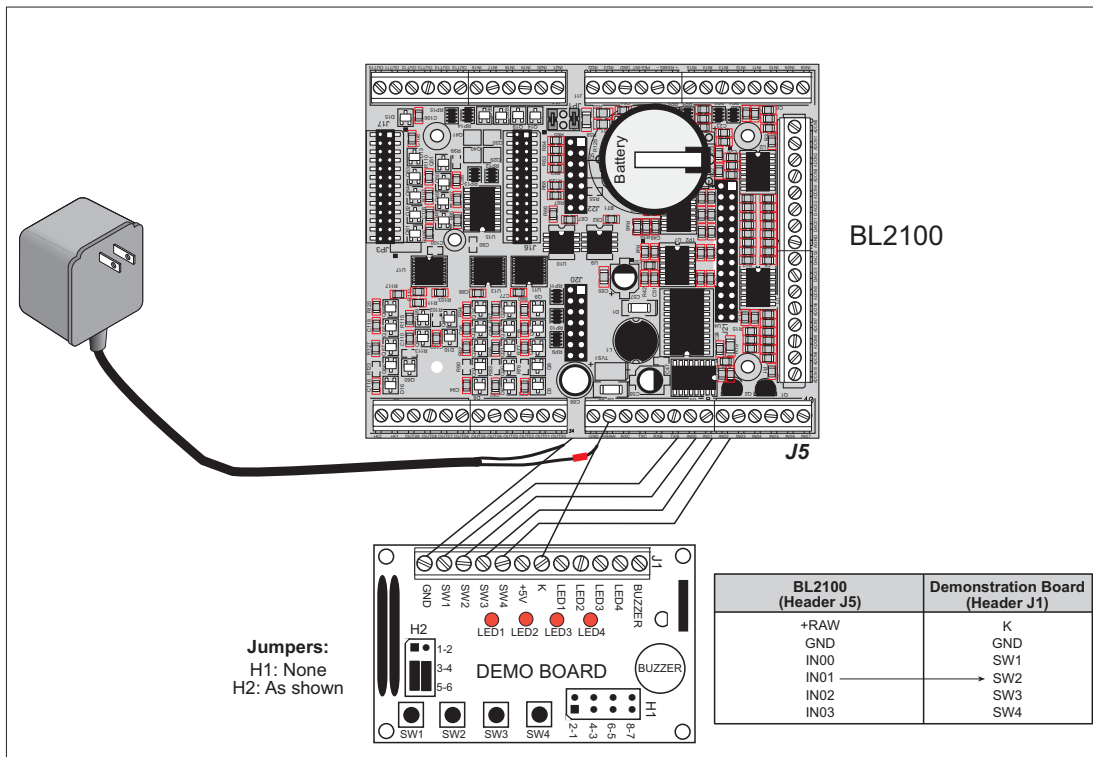
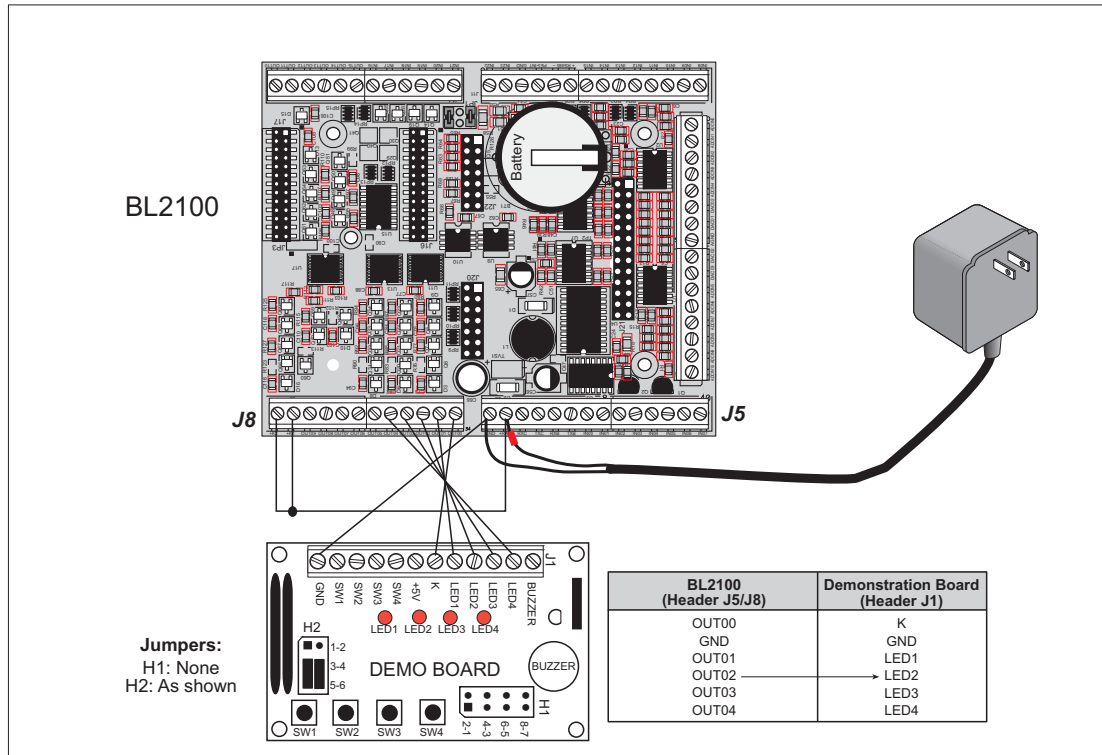
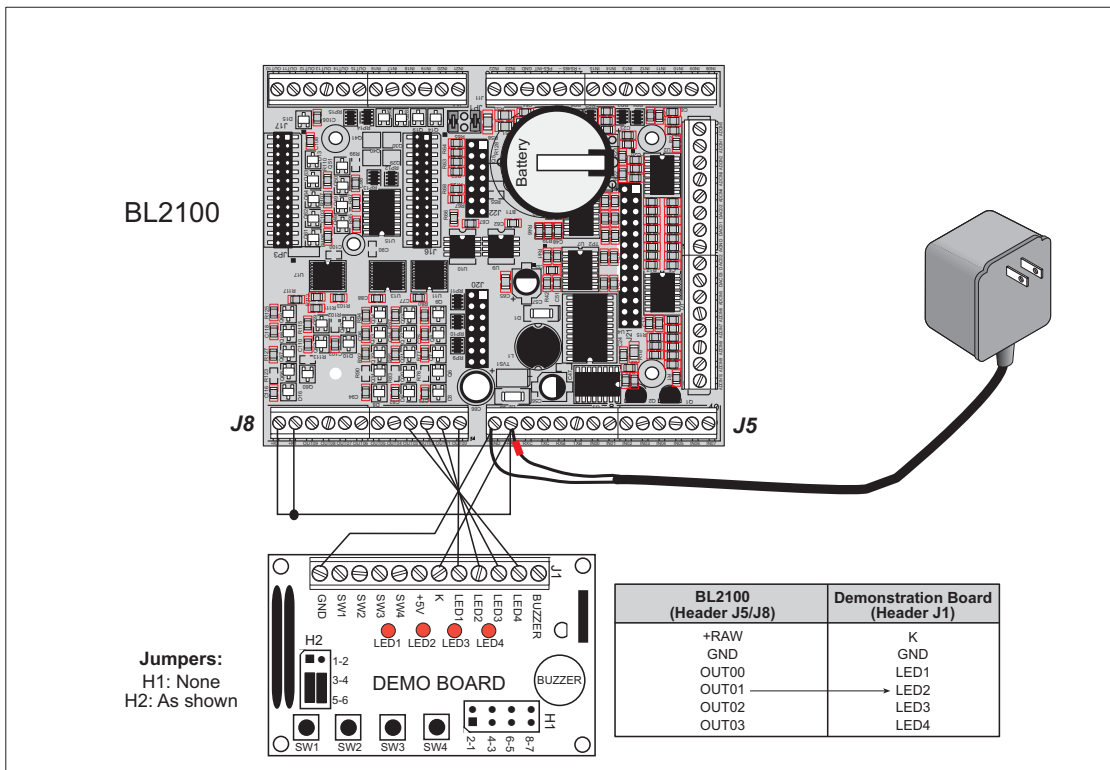

Figure E-1. General Digital Input Connections Between BL2100 and Demonstration Board
Figure E-2. Digital Output Connections Between BL2100 and Demonstration Board
Figure E-3. SSI .C Connections Between BL2100 and Demonstration Board
1. Use the wires included in the BL2100 Tool Kit to connect header J1 on the Demonstration Board to screw-terminal headers J5 and J8 on the BL2100. The connections are shown in Figure E-1 for sample program **DIGIN.C** and for sample program **SMTF.C**, in Figure E-2 for sample program **DIGOUT.C**, and in Figure E-3 for sample program **SSI.C**.
NOTE: +K1 and +K2 on screw-terminal header J8 must be connected to +RAW on screw-terminal header J5 as shown in Figure E-2.
NOTE: +K1 and +K2 on screw-terminal header J8 must be connected to +RAW on screw-terminal header J5 as shown in Figure E-3.